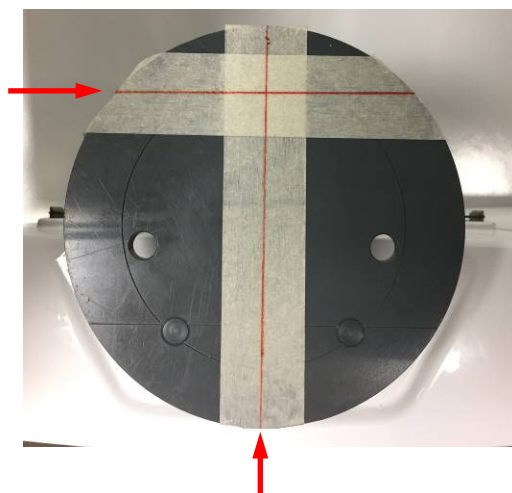
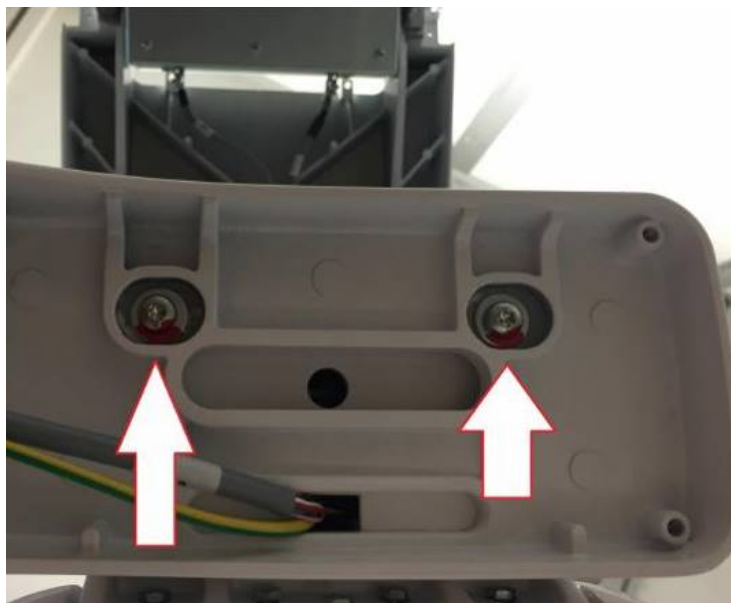

Figure 25
Figure 28
7. Mount the new tubehead, taking care to push it with one hand in the direction of the sensor while tightening the screws "C" (Figure 25).
13. In case the beam is not centered to the sensor, loosen the screws "C" (Figure 25) and act on screws "D" and "E" (Figure 28) following the convention reported below: